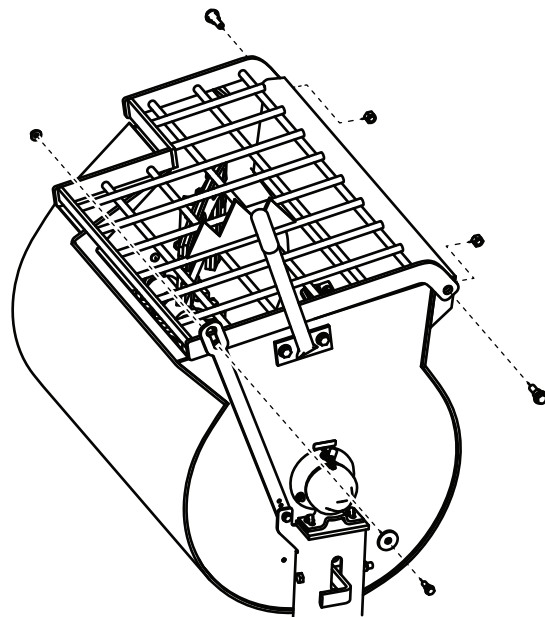

Figure 35
- Remove the nuts and bolts that secure the grate to the drum, and remove the grate (Figure 35).